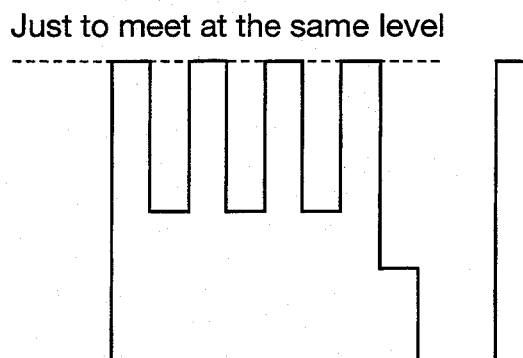

Fig. 11
5. Adjust Sub-color control (VR853) to make the Color Bar signal at the same level as show in Fig. 11.